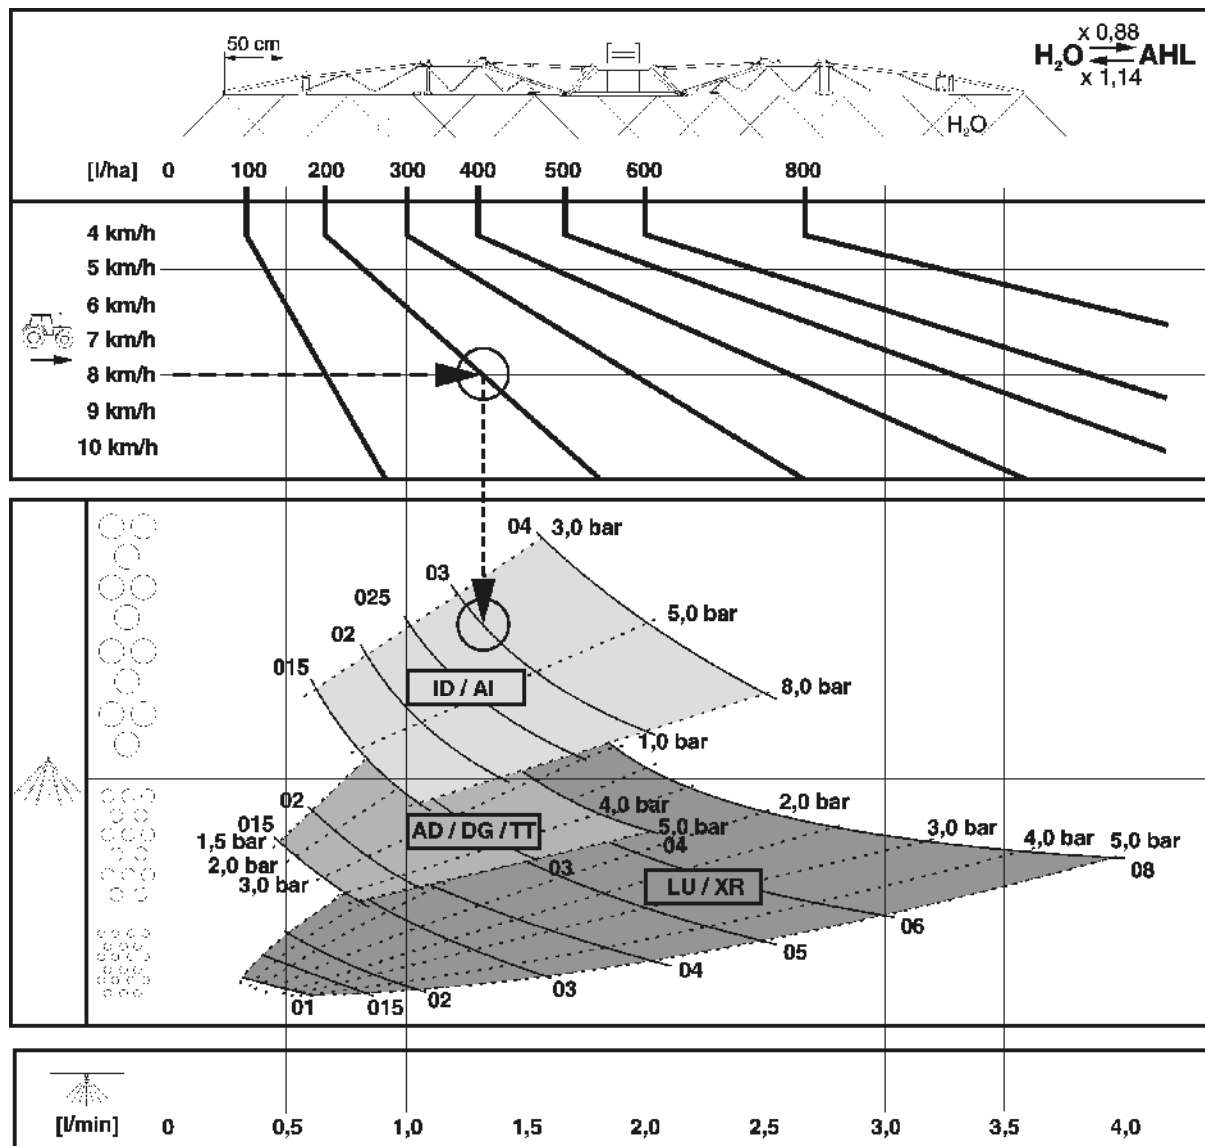

Fig. 150
- Fig. 150 helps with the selection of the right nozzle type. The nozzle type is determined by